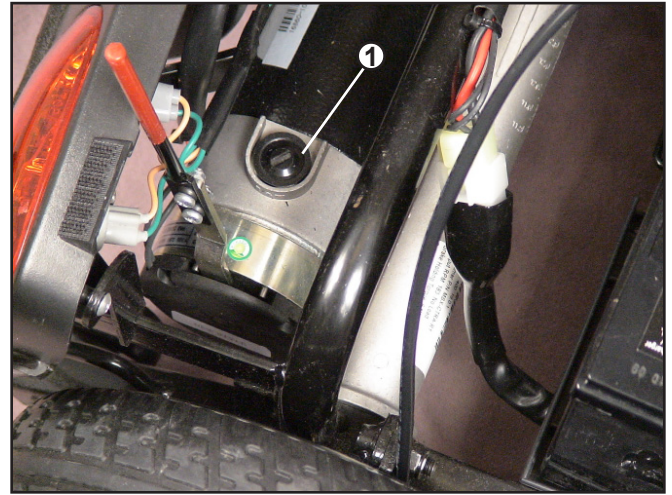

Figure 21. Motor Brush Cap
5. Remove the motor brush cap. **(See #1 on figure 21.)**